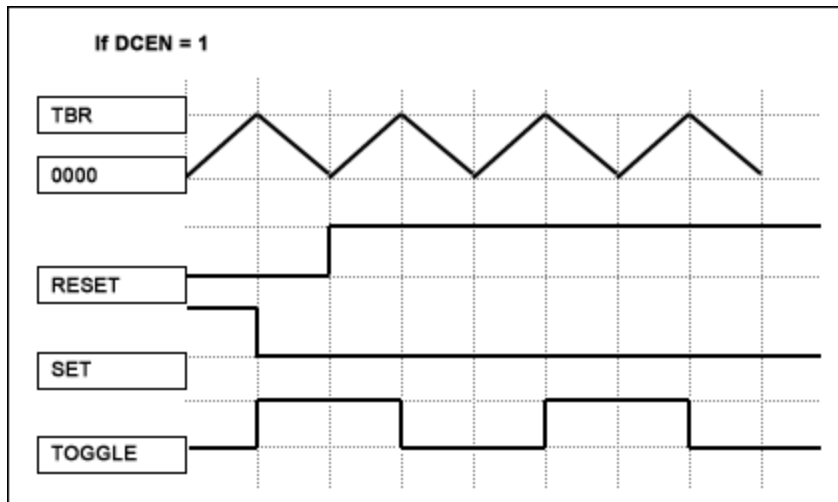

Figure 2.
**Example 2: Generate a 1MHz waveform with a 50% duty cycle starting with LOW (use TOGGLE compare mode). (See Figure 2.)**